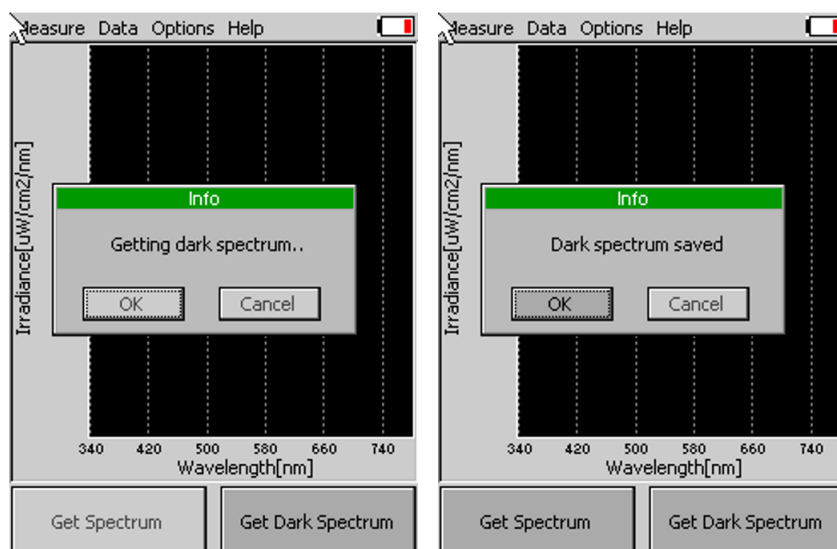

Fig. 4 Dark spectrum calibration – part 2.
- Press OK** and wait until the Dark spectrum calibration step is completed (Fig. 4). Please note that the sensor head must be covered throughout the entire process of calibration.